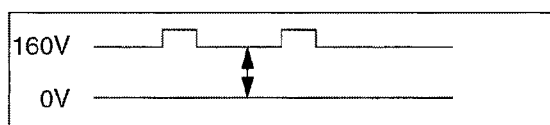

Fig. 1
2. Adjust G-CUTOFF control to become the DC=0 V to video level at 180 V as shown in Fig. 1.